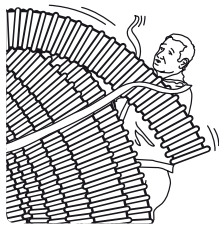
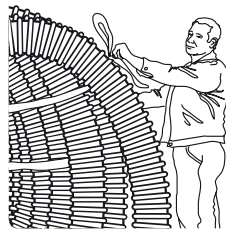

Fig. 1
Fig. 2
**Warning:** The pipe ends could whiplash when the textile tapes are opened (see Fig. 1) Therefore make sure the coils are always secured with two to three tapes. (see Fig. 2).